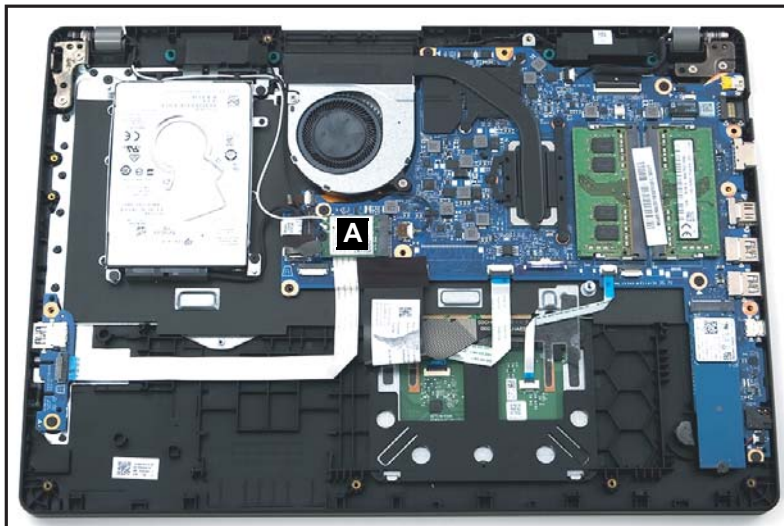

Figure 1-9. WLAN Module Location
1. Find the WLAN module (A) on the top assembly (Figure 1-9).